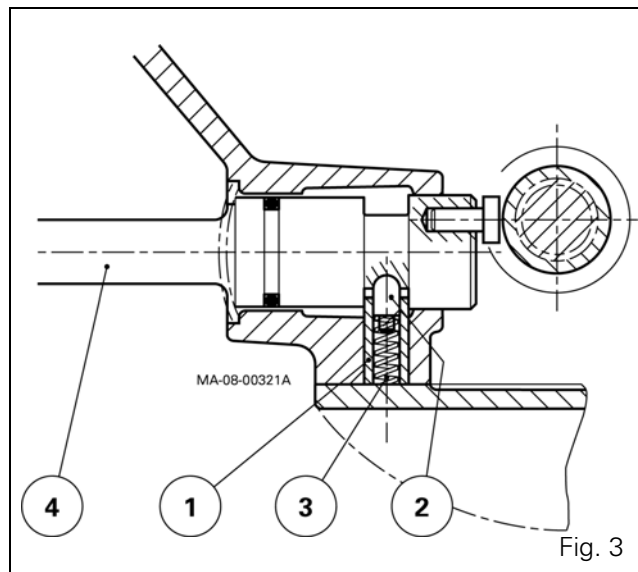

Fig. 3
Disassembling the rear bearing (Fig. 3)
Reassembling the rear bearing (Fig. 3)
3. Remove the screws (10) and the cover plate (17).
NOTE: On tractors fitted with proportional PTO, recover the spring (3), the detent plunger (2) and the retainer pipe (1) (Fig. 3).
75. On tractors fitted with proportional PTO, check the position of the lever (4). Fit the retainer pipe (1), the detent plunger (2) and the spring (3) (Fig. 3).
76. Put the cover plate back on (17).
77. Remove the guide studs, and fit and tighten the screws (10) to a torque of 130 - 170 Nm.